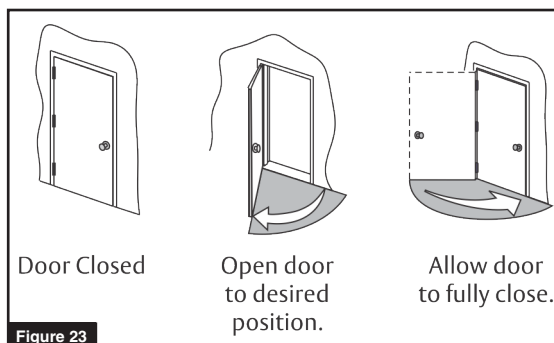

Figure 23
- Push in on joystick again, while door is still closed, to set Home or closed position (Figure 23). Display changes to "Set Open Limit".
- Open door to desired open position (Figure 23) and push in on joystick again. Display changes to "Closing to Home".
- Allow door to fully close again (Figure 23). Display changes to "Home".